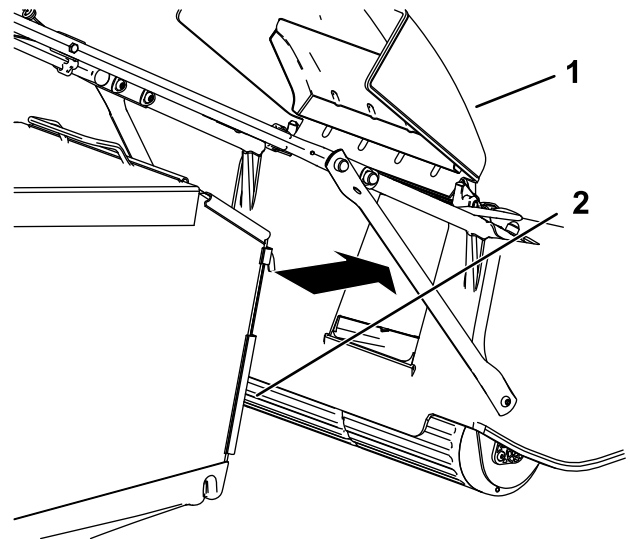

Figure 20
3. Hook the grass bag into position (Figure 20).